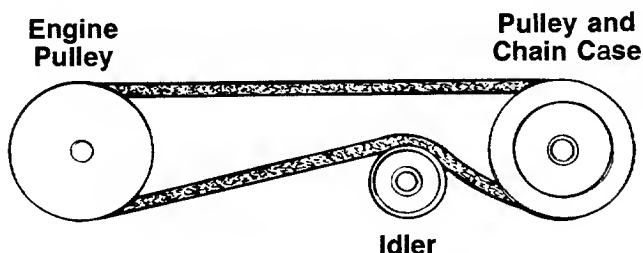

FIGURE 25.
5. Reassemble using the new belt, making certain the idler pulley is under the belt. See figure 25.